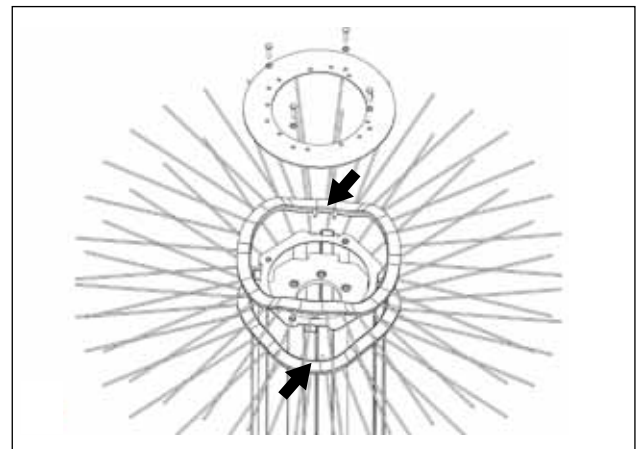

figure 3
- b. Install a second section with drive pins rotated 180° from those on the first section. (figure 3)